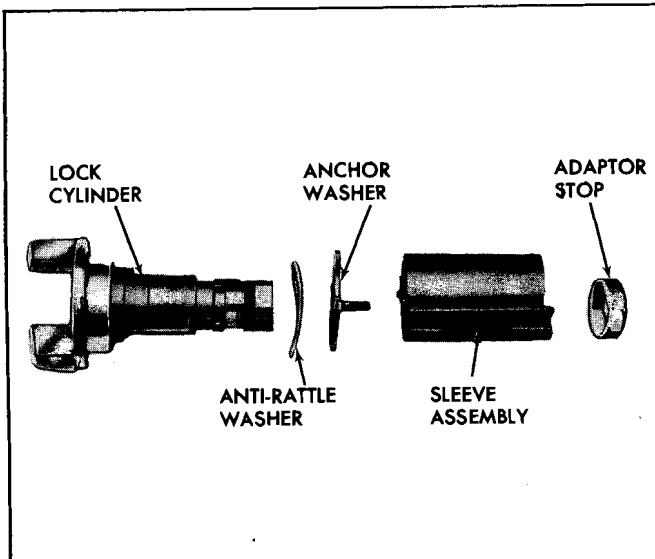

Fig. 0-11 Exploded View of Lock Cylinder
- A. Pry off gate adapter stop ring. (Fig. 0-11).
washer and special lock washer over lock as shown in Fig. 0-11.